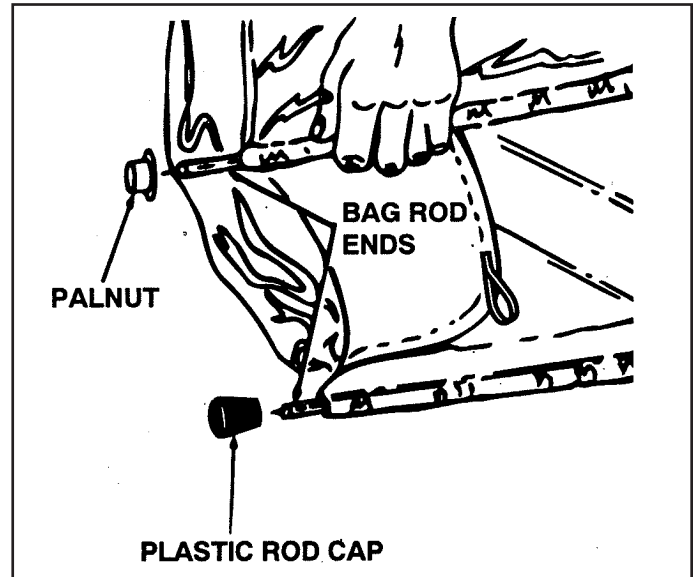

FIGURE 5
7. Assemble the two plastic rod caps to the rod ends of the bottom bag rod. Assemble two Palnuts to the ends of the top bag rod. See figure 5.